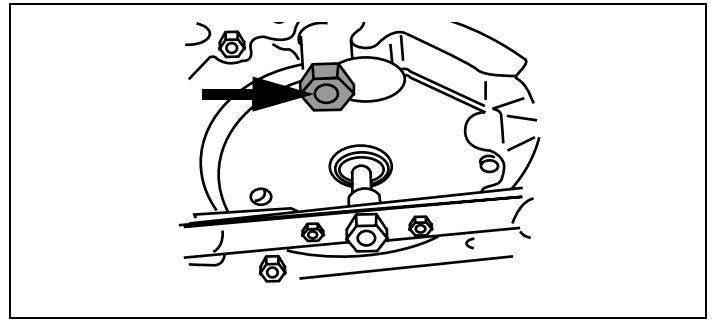

Figure 34. Oil Drain Plug
5. Place approved recyclable oil container under oil drain plug, if present. See Figure 34.